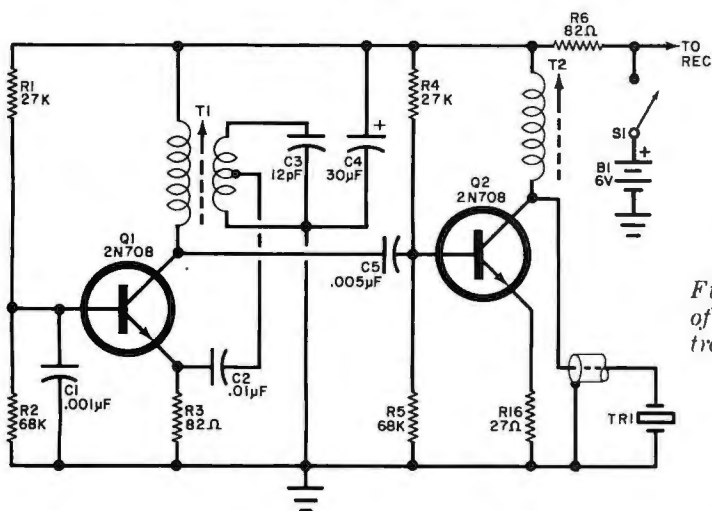

Fig. 1. Schematic of the stethoscope transmitter circuit.
**Circuit Operation.** In the transmitter circuit (Fig. 1) Q1 operates as a 2-MHz oscillator. Positive feedback is